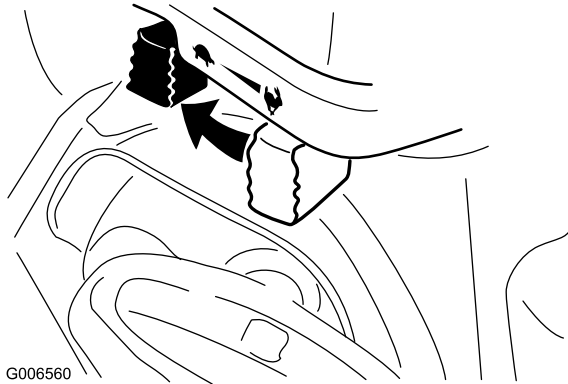

Figure 25
1. Move the throttle to the Slow position, and then to the Stop position (Figure 25).